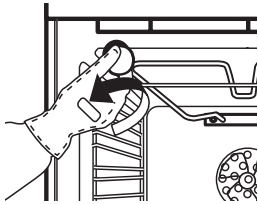

Fig. 5
- 2. Unscrew the lamp cover (Fig. 5), replace the lamp (see note for lamp type) and screw the lamp cover back on.
- The lamp used in the appliance is specifically designed for electrical appliances and it is not suitable for household room illumination (Commission Regulation (EC) No 244/2009).